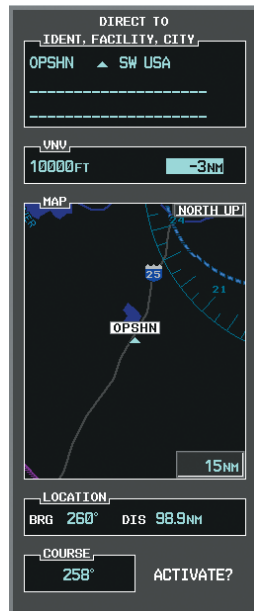

Figure 5-121 Enter VNV Offset Distance
f) Press the **ENT** Key. The cursor is now displayed in the VNV offset field as shown in Figure 5-121.